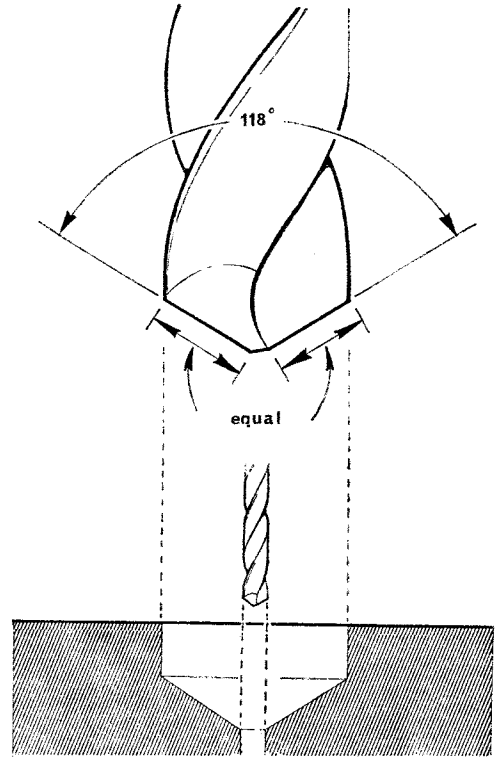

Fig. 2 Drill angles
5. **Drill angles.** To cut properly, a drill must have the correct cutting and clearance angles. The angles most suitable are shown in Fig 2. It can be seen that the drill does not come to a fine point; because of this a centre punch is used as a marker to prevent the drill wandering. When drilling a large hole a much more accurate result can be obtained by using a pilot drill (slightly larger than the pointed end of the main drill) to produce a guiding hole.